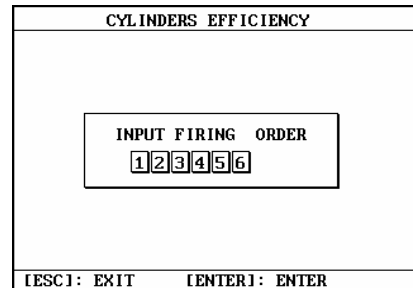

Fig.7-33
- ◆ If the selected number of cylinders is larger than 4, the screen will request you to input firing order as shown in Fig.7-33.